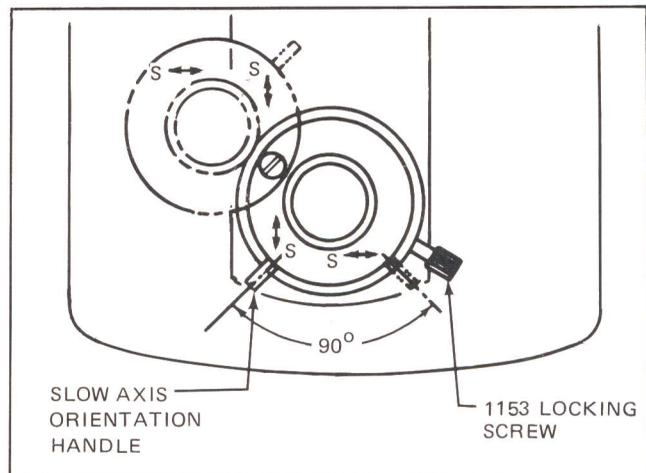
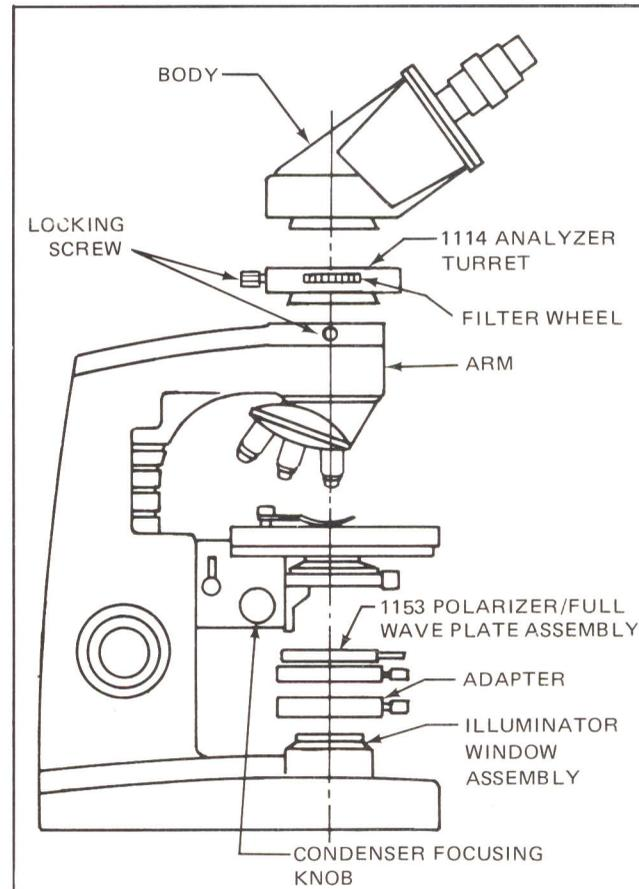

Figure 2.
Figure 5.
3. Orient analyzer assembly approximately as shown in Figure 2. (Final positioning is described as follows.)
2. Rotate Full Wave Plate out of light path (dotted line in Figure 2).
5. **Rotate 1153 until maximum extinction (blackest field) is achieved. This should require only slight movement in one direction or another. If not, double check original mounting position of 1153 (Figure 2).**
The 1153 Polarizer/Full Wave Plate and Adapter 1153A are mounted on the Illuminator Window Assembly Mounting Flange as shown in Figure 5. (Orient as per Figure 2.) Rotate 1114 Filter Wheel to "1" position. Proceed with installation instructions Section II, C, Steps 2 – 6.